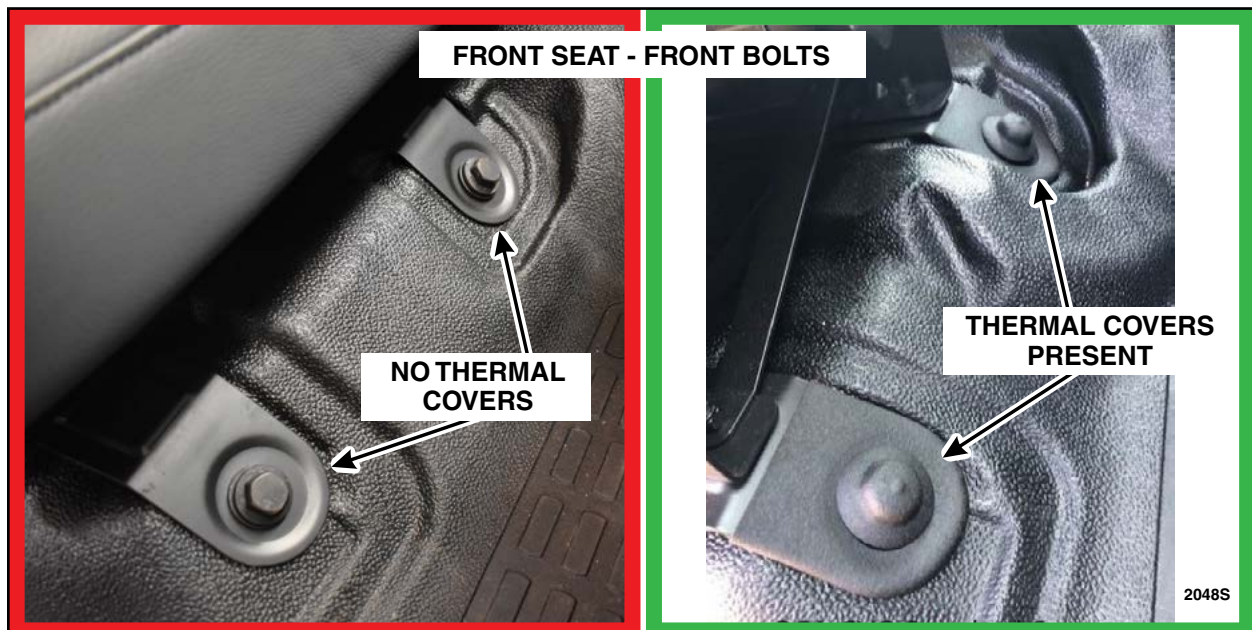

FIGURE 5
Regular Cabs - a. Covers and sleeve on both front seat, front bolts (4). See Figure 5.
Super Cabs and Crew Cabs - a. Covers and sleeve on both front seat, front bolts (4). See Figure 5.